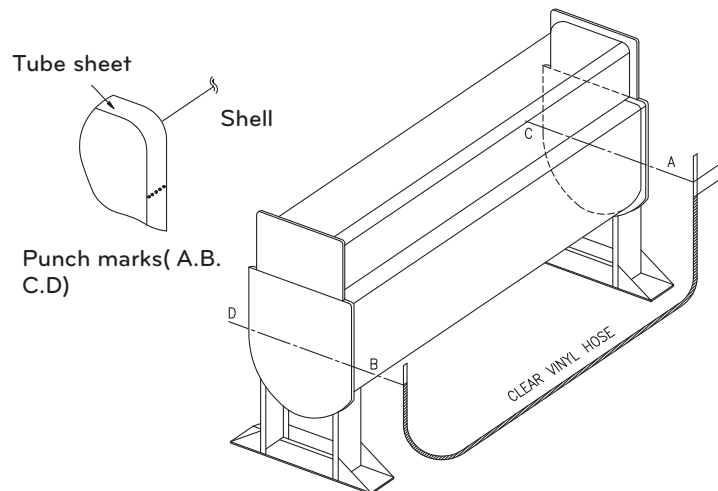

Figure 8. Leveling the machine
- 1) Use the water head difference. (Use a transparent vinyl hose.) The horizontal deviation checking point is marked at each edge of the tube sheet in the bottom shell of the machine. When checking the levelness after deciding the position, fill water in a clean vinyl hose and measure the differences of the water head between one point and the other three points, as shown in Figure 8.